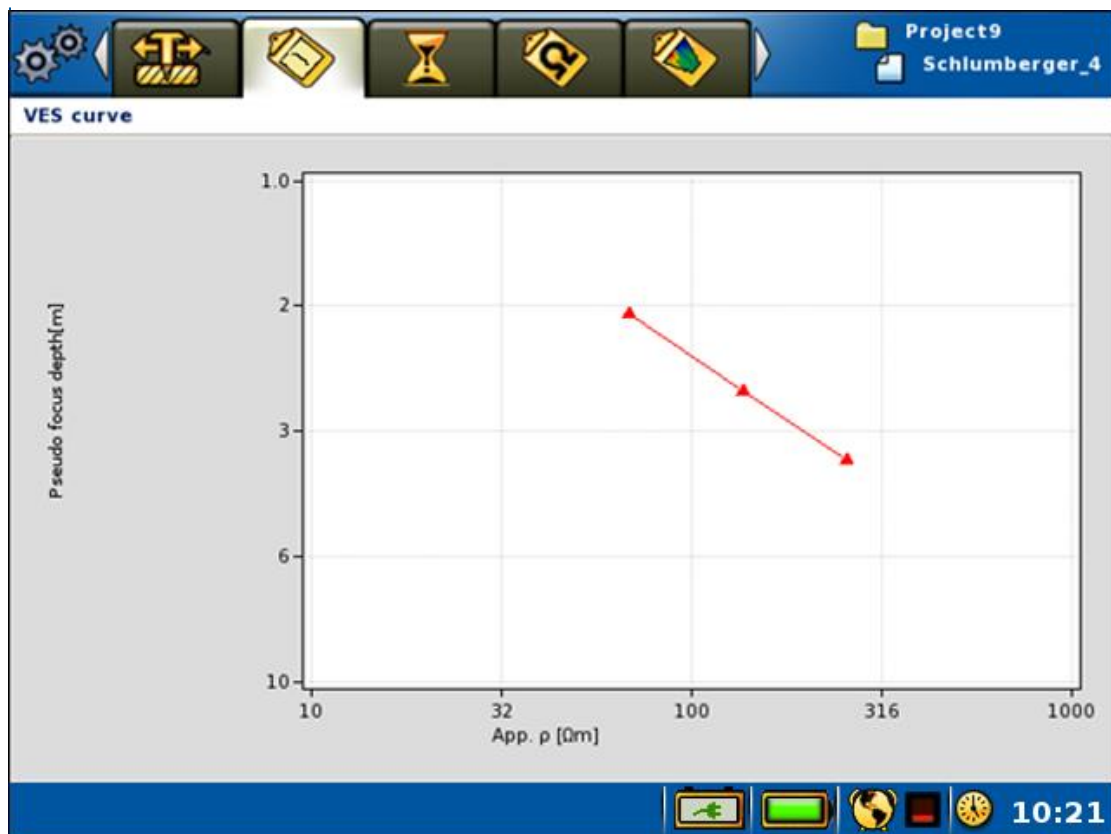

Figure 73 VES Curve View example
- The “*Measure/VES Curve*” View (Figure 73) displays a sounding curve of the made measurements
In VES mode a sounding curve will be shown in a double logarithmic diagram on the *VES Curve View* (Figure 73). Focus depth (median depth penetration) will be on the vertical axis and apparent resistivity on the horizontal axis.